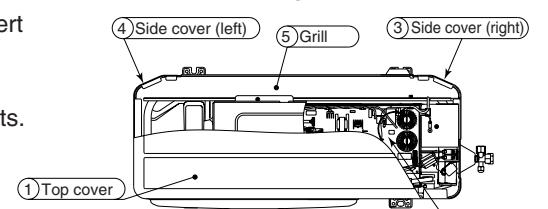

Figure 2
- Remove external parts 1 to 9 and the main unit parts. (See figures 2 and 3)